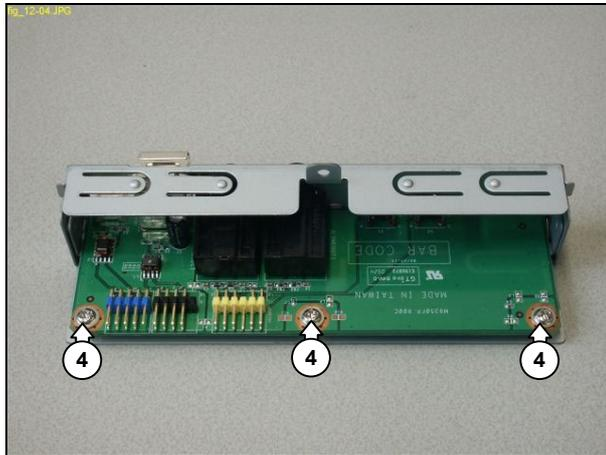

Figure 12.11-4
2. Remove the 3 mounting screws (4) from the FP I/O board. See Figure 12.11-4.